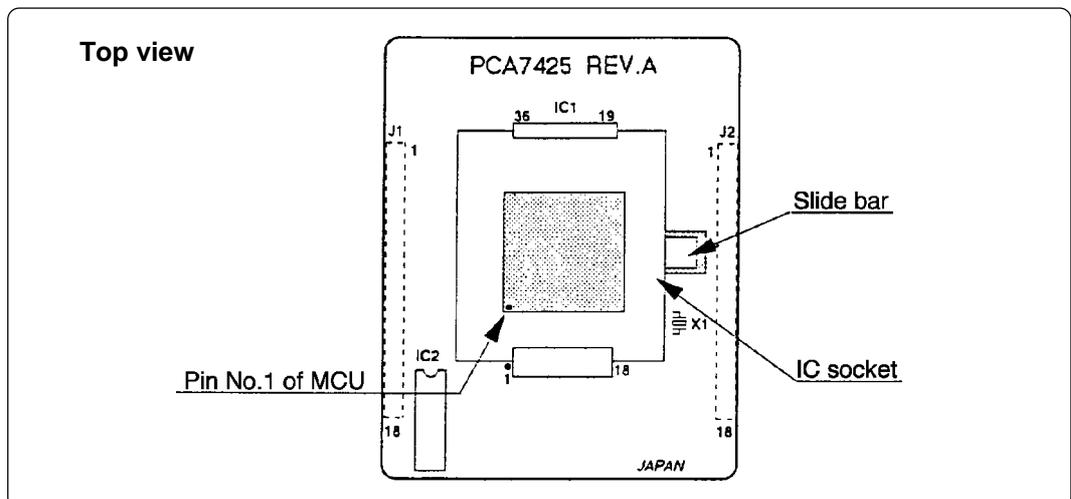

Figure 4.2 Inserting an MCU
- (1) As shown in Figure 4.2, set the slide bar of the IC socket to the right side (marked on the board).
- (2) As shown in Figure 4.2, insert the MCU into the IC socket, with the pin No. 1 of the MCU matched to the pin No. 1 of the IC socket.